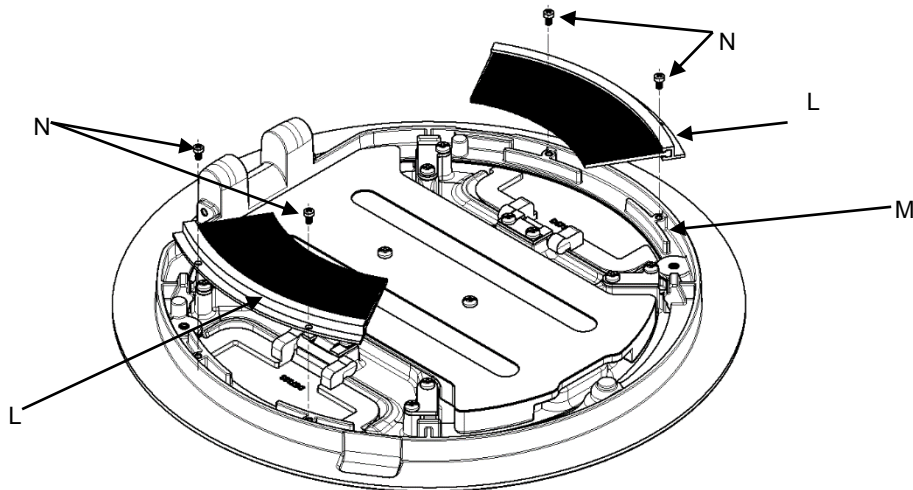

Fig. 7
Install the door brushes (L), purchased separately, on the underside of the flange (M) noting the orientation of the door brushes (L) as shown in Fig. 7. Torque screws (N) to 3-4 in-lbs (0,3-0,4 Nm). DO NOT OVERTIGHTEN.